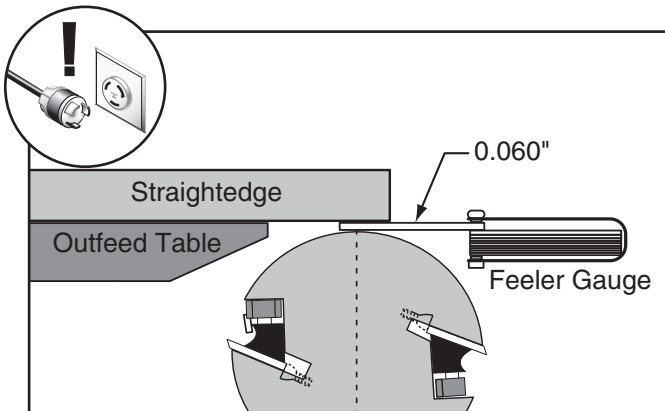

Figure 59. Using feeler gauge to check outfeed table-cutterhead height.
4. Try to fit a 0.060" feeler gauge (or combination of feeler gauges) between the cutterhead body and the bottom of the straightedge (**Figure 59**).
5. Place the straightedge on the front side of the outfeed table so it hangs over the cutterhead, as shown in **Figure 59**, then try to fit a feeler gauge or combination of feeler gauges between the cutterhead and bottom of the straightedge.